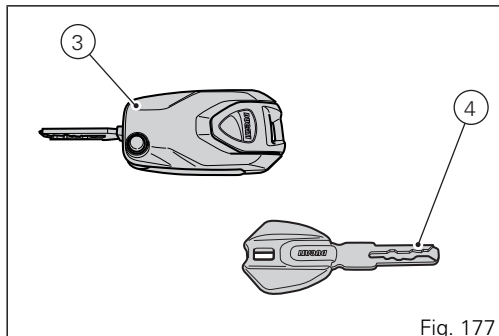

Fig. 177
Key-On can be performed by pressing button (6) on the handlebar and with the presence of the active key (3, Fig. 177).
Key-Off can be performed by pressing the button (6) on the handlebar. It can also be performed without the key (3, Fig. 177) only if motorcycle speed is equal to zero.
Key-On can be performed by pressing button (7) on the Hands free unit (1, Fig. 172) and with the presence of the active key (3, Fig. 177).
Key-Off can be performed by pressing button (7) on the Hands free lock (1, Fig. 172), also without the key (3, Fig. 177).
Key-On can be performed by pressing the grey button (6) on the handlebar and with the presence of the passive key (4, Fig. 177).
Key-Off can be performed by pressing the grey button (6) on the handlebar. It can also be performed without the key (4, Fig. 177) only if motorcycle speed is equal to zero.
Key-On can be performed by pressing button (7) on the Hands free lock and with the presence of the passive key (4, Fig. 177).
Key-Off can be performed by pressing button (7) on the Hands free lock (1, Fig. 172), also without the key (4, Fig. 177).
Key-On can be performed by pressing button (7) on the hands free lock (1, Fig. 172) without the presence of the keys (3, Fig. 177) and (4, Fig. 177) and entering the pin code on the instrument panel.